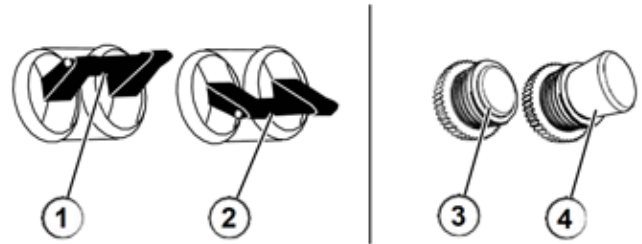

Figure 8 - Breakers
2. Make sure the circuit breakers are properly set (see Figure 8).